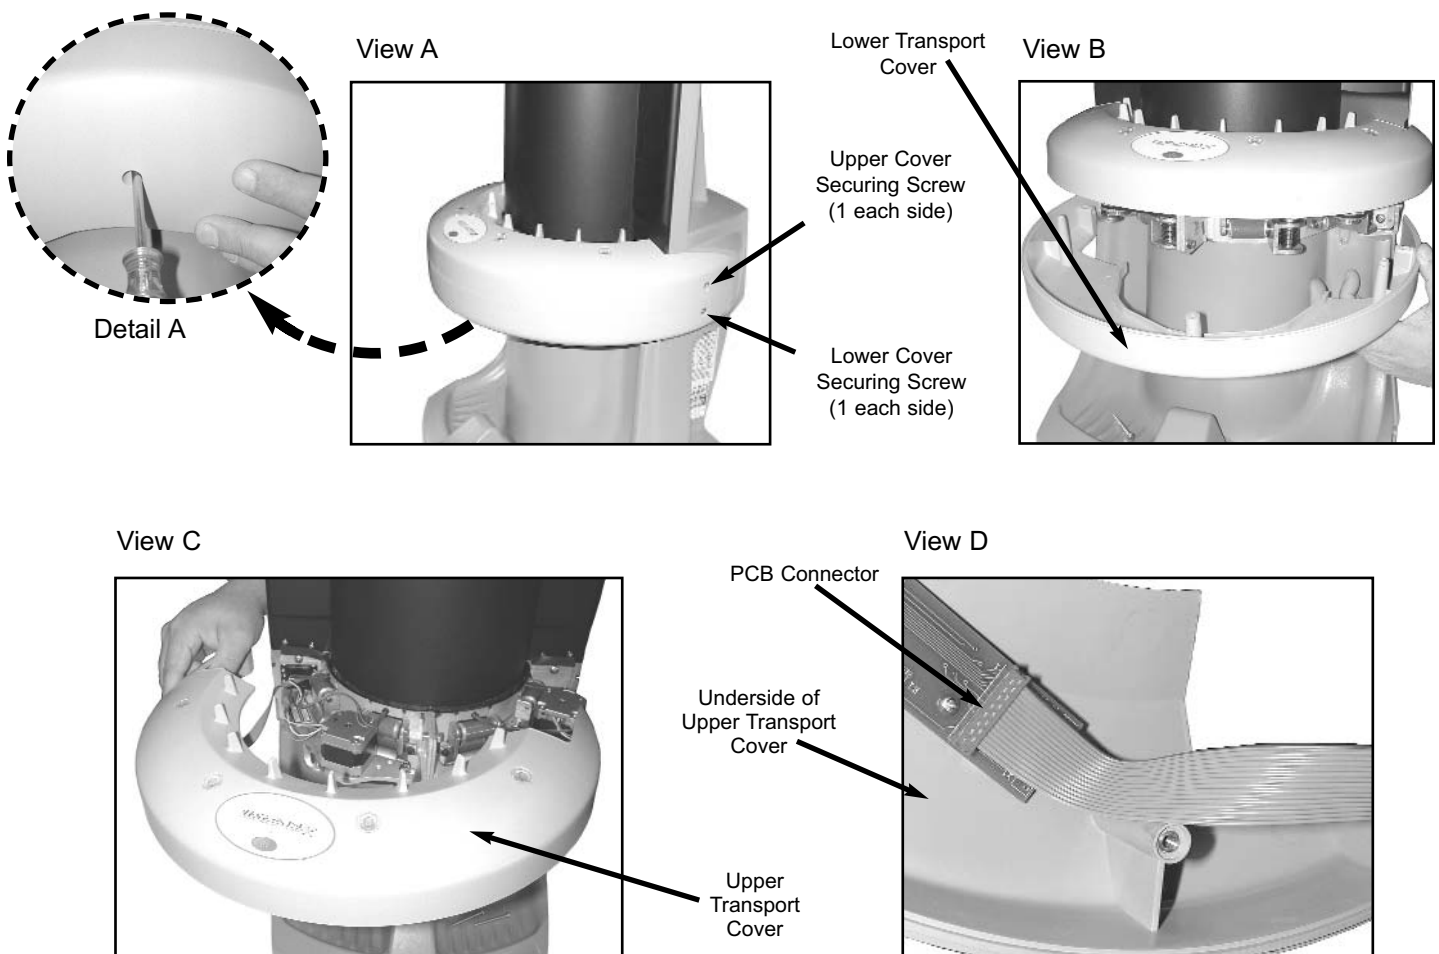

Figure 1. ScanX Transport Covers Removal
Removing the Transport Covers. Refer to Figure 1 and remove the transport covers as follows:
3. Refer to Figure 1 and mount the Upper Transport Cover to the ScanX by aligning the two counter-bored holes at the rear sides of the cover with the corresponding threaded holes (upper) in the sides of the Mounting Blocks. Install without tightening two side screws (one on each side).
6. Holding the the two covers together, install, without tightening, the central front (longest) screw as shown Figure 1, Detail A.